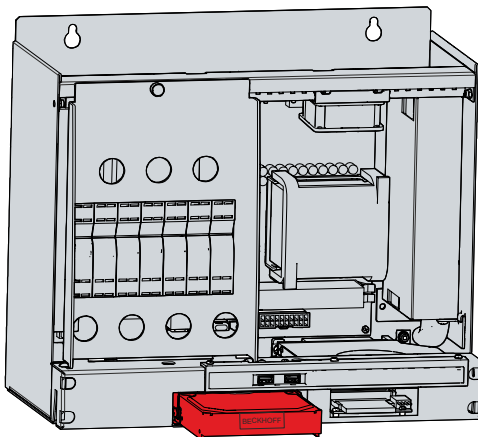

Fig. 31: C6640_exchange hard disk
1. Pull the hard disk vigorously out of the PC by the protruding Beckhoff sticker (see Fig. 31).